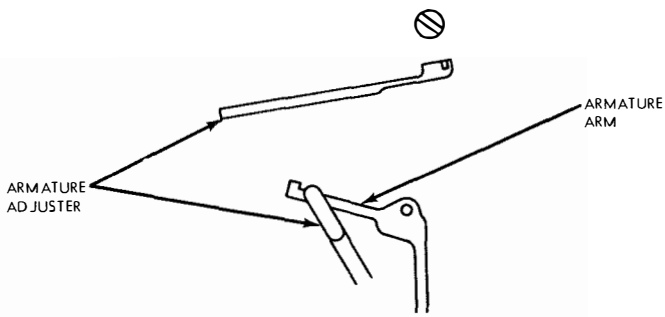

Figure 7-122. Relay Armature Adjustments
(3) **ARMATURE TRAVEL (STROKE).** — The armature travel (stroke) value is specified in the relay adjustment table under the **SPRING GAUGING** column (see figure 7-122). A tolerance of 0.002 inch for inspection may be allowed. A gauge 0.003 inch larger than the armature travel value should not enter between the end of the residual disk and the coil core on standard armature relays. For short arm armatures, use a 0.005 inch larger gauge. Check with the relay not energized.